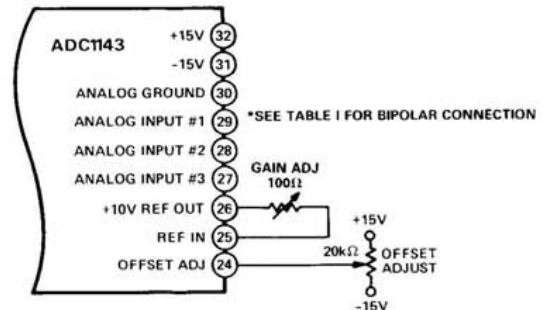

Figure 3. Offset and Gain Calibration
Offset and gain errors are adjustable to zero by means of external potentiometers. See Figure 3 for proper connections.
For operation, the only connections to the ADC1143 that are necessary are the power supplies, internal or external reference, input voltage pin programming, convert command and digital output. Refer to Table I for input pin programming and Figure 3 for offset and gain calibration.
Initial offset and gain errors can be adjusted to zero by potentiometers as shown in Figure 3. Proper offset and gain calibration requires great care and the use of extremely sensitive and accurate reference instruments. The voltage reference used as a signal source must be very stable and have the capability of being set within ±1μV of the desired value. The potentiometers should be good quality cermet type. Multiturn potentiometers having ten to fifteen turns and ±100ppm/°C temperature coefficients will be adequate. The temperature coefficient contribution will be less than ±0.1ppm/°C.
*If internal reference is used, Pins 25 and 26 must be connected together through a 100Ω potentiometer or 49.9Ω fixed resistor (see Figure 3 and Gain Calibration Section).